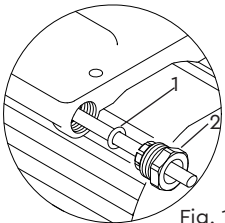

Fig. 11
To enable correct assembly of the cable gland the 'O'-ring (Fig. 11 item 1) must be placed over the cable before the clamping insert (Fig. 11 item 2) can be tightened.